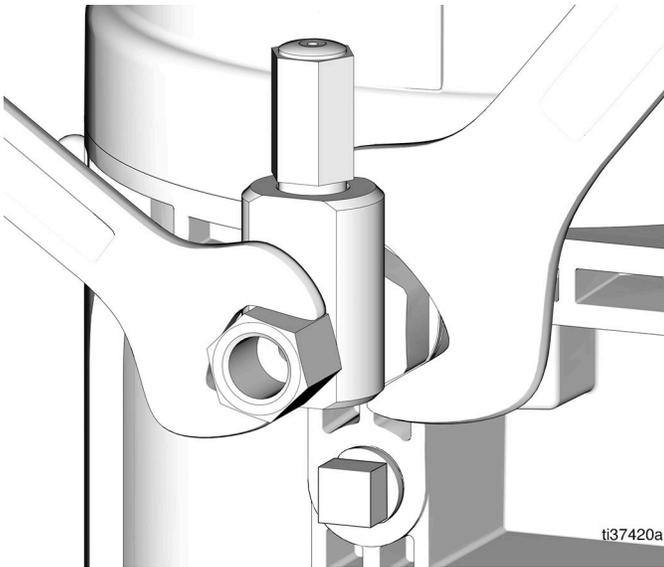

FIG. 20
1. Loosen the pump element fitting (FIG. 20).